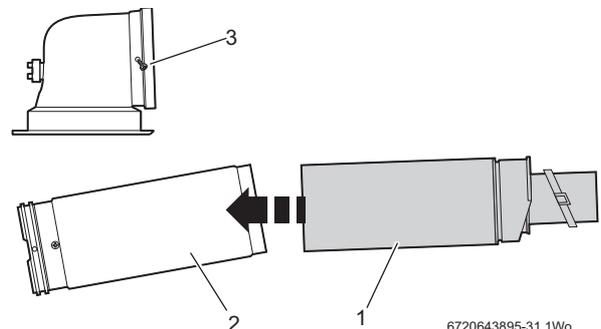

Fig. 35 Reducing the standard terminal
- ▶ If the required length is less than 350mm the standard telescopic flue can be modified, refer to fig. 35.